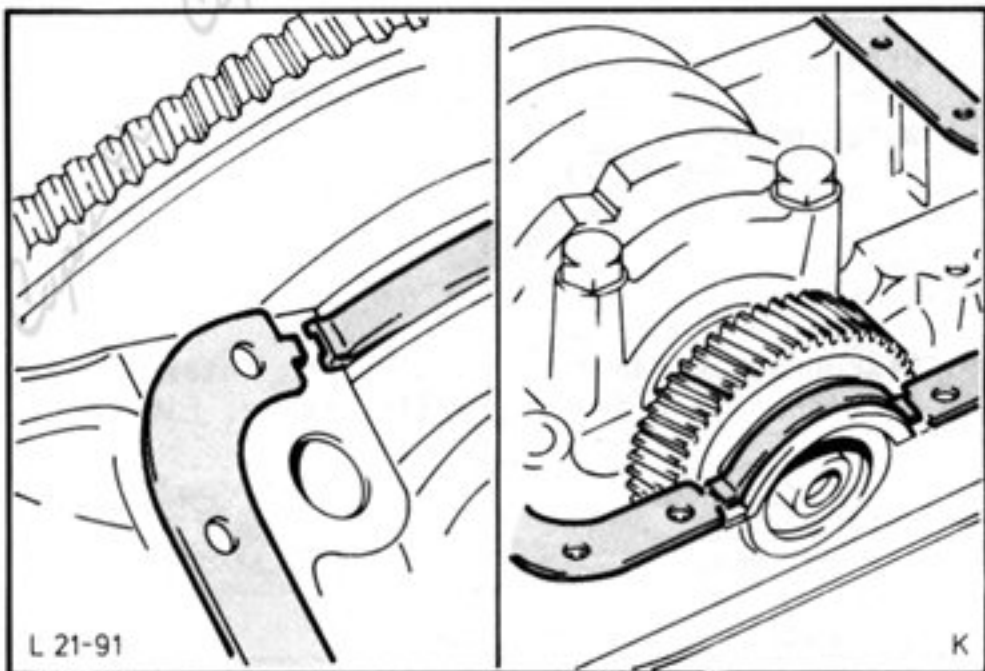

Fig.77. Fit sump gasket.
6. Remove traces of old gasket from sealing faces of cylinder block and sump. Straighten sump gasket face, if distorted. Stick new set of gaskets to the cylinder block, using grease, taking care that the sump gasket is correctly located, fig.77.